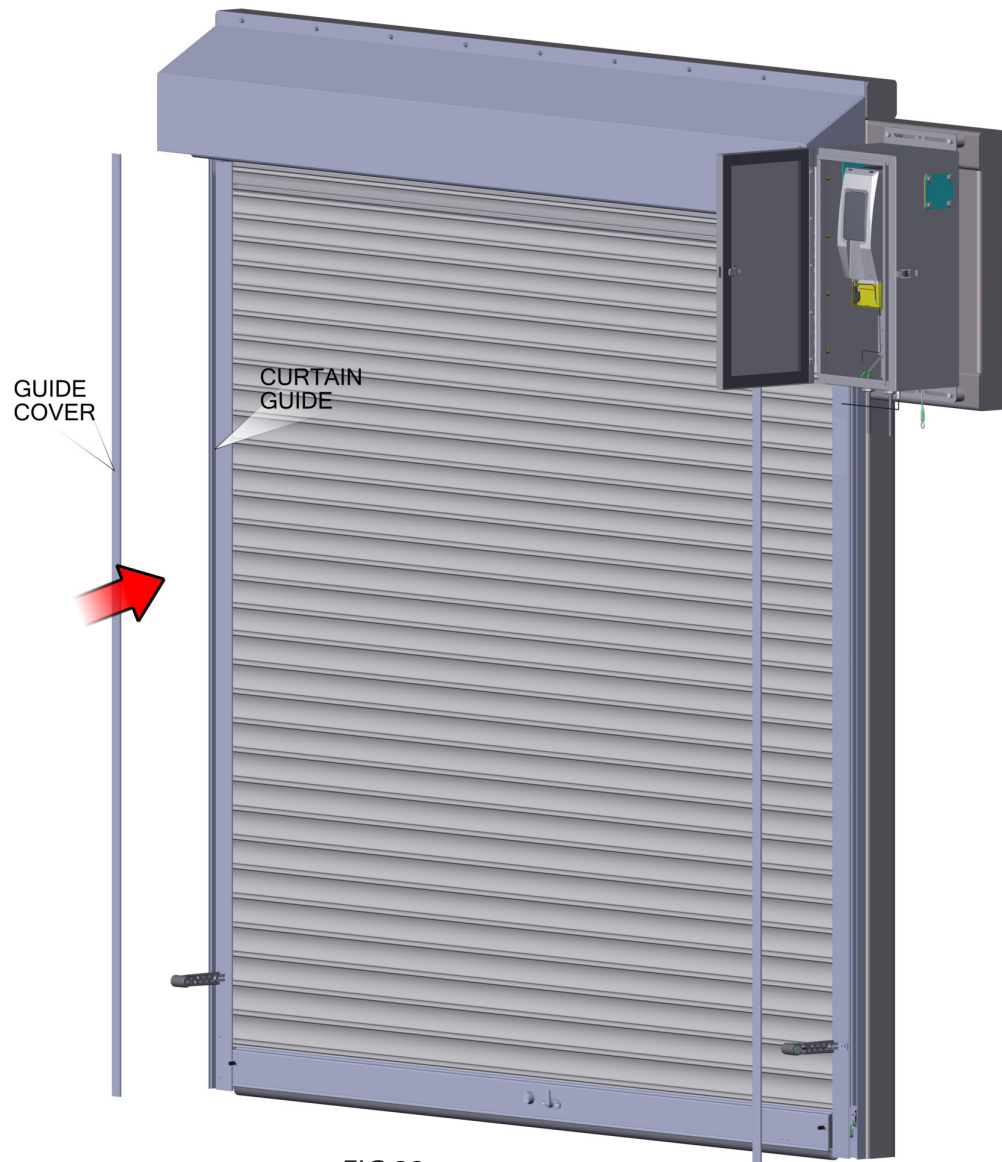
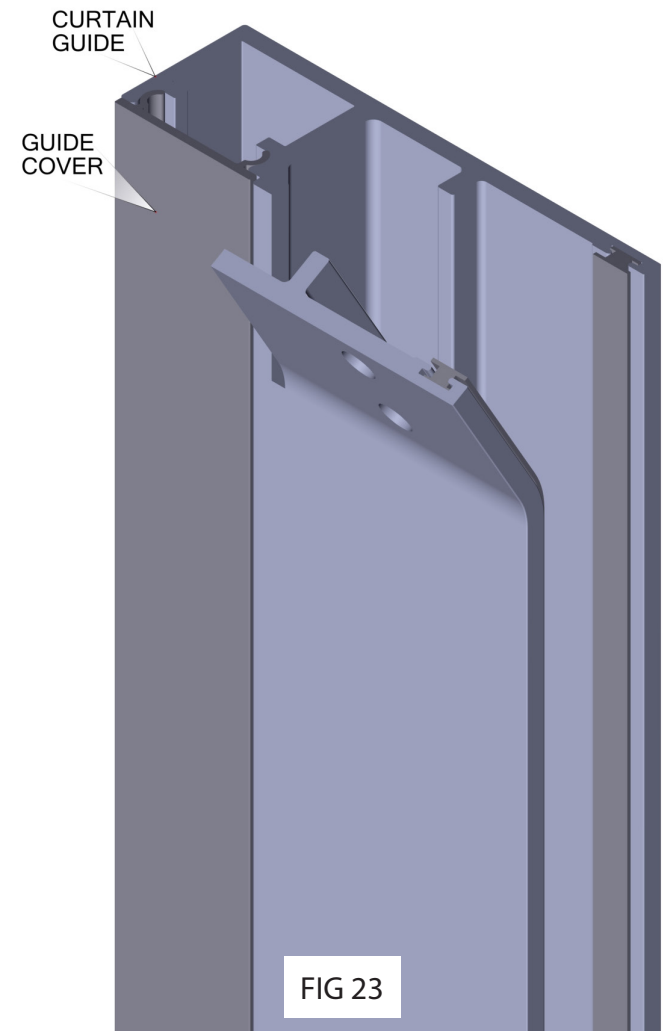

FIG 22
FIG 23
- Align guide covers on guides and snap into place. See FIG 22 and FIG 23.